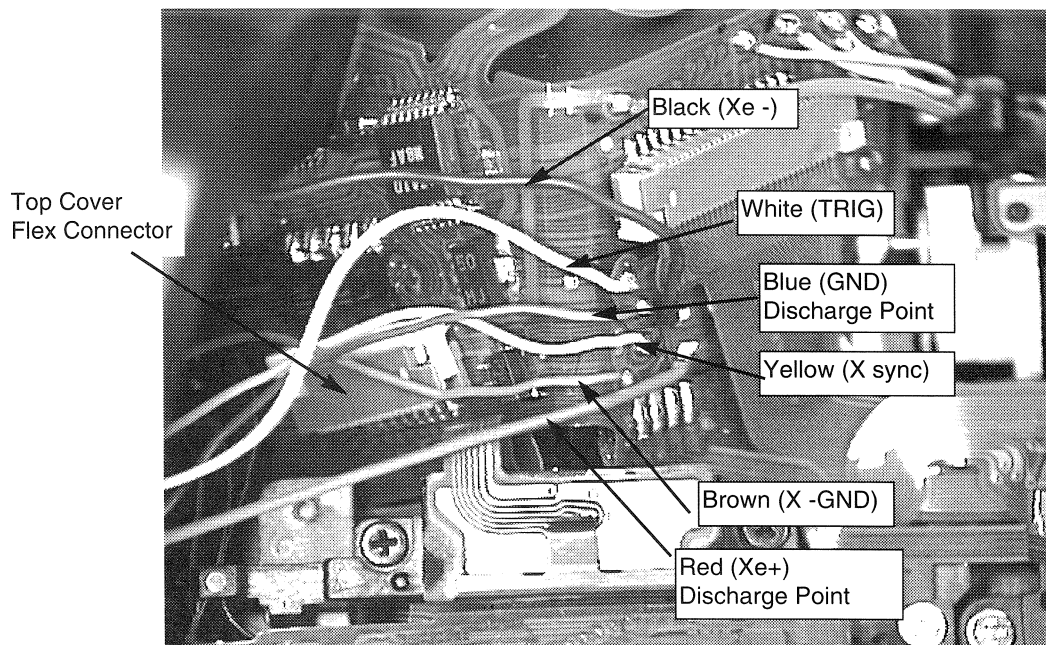

Fig. 3-12 Lead Wiring and Main Capacitor Bleeding
5. Unsolder the five leads from the camera as shown in Figure 3-12.